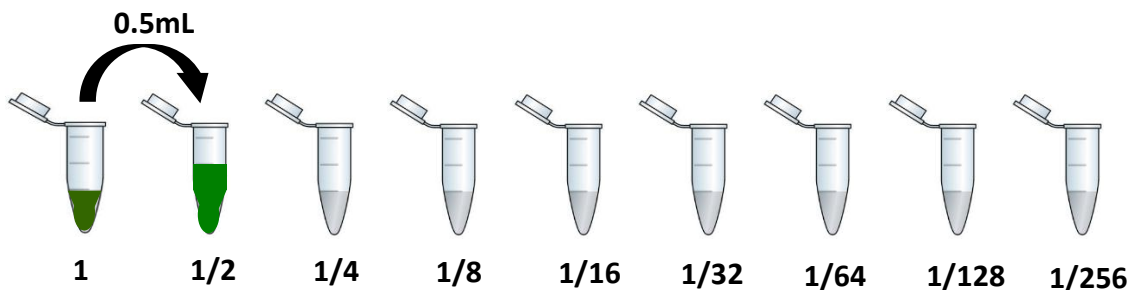

Fig. 2
5. To make your first serial dilution, use a p1000 micropipette to remove 0.5mL of the dark green solution in tube #1. Add the 0.5mL you have removed from tube #1 and mix it with the 0.5mL of water in the tube marked $1/2$. You now have 1mL in tube # $1/2$ and this solution is a slightly lighter green than the solution in tube #1 (See Fig. 2).